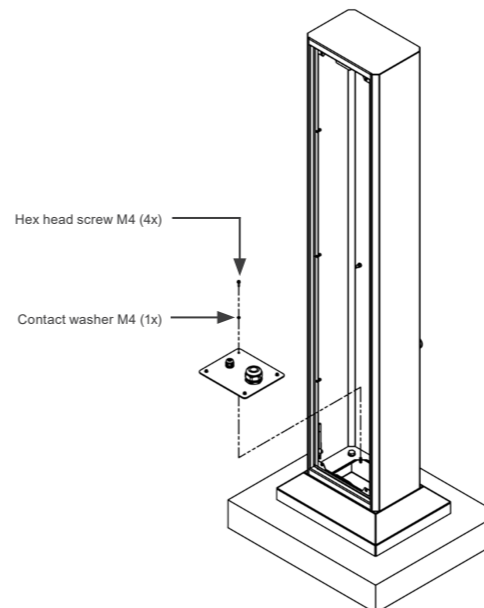

Figure 3.4: Flange grounding point of the WEMOB Totem
After securing the totem to the product base, ground the flange using one (01) M4 contact washer, supplied with the product, in any of the flange's mounting holes, as shown in Figure 3.4. The recommended tightening torque is 3 Nm.